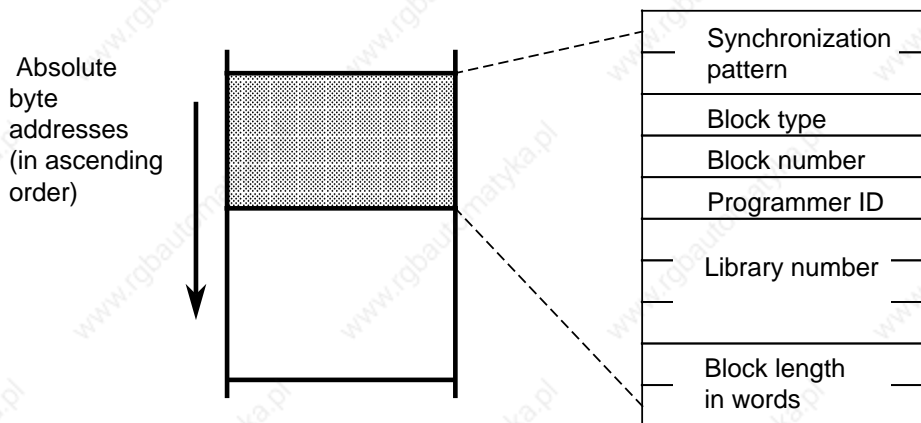

Figure 7-2. Structure of a Block Header
- Block header as for other blocks (five words) (see Figure 7-2)